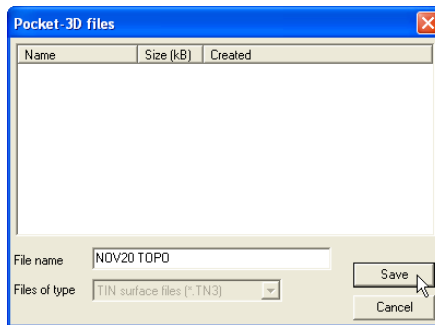

Figure 5-24. Save TIN Surface File to Pocket-3D Controller
3. On the *Pocket-3D files* dialog box, do one of the following and click **Save** (Figure 5-24):